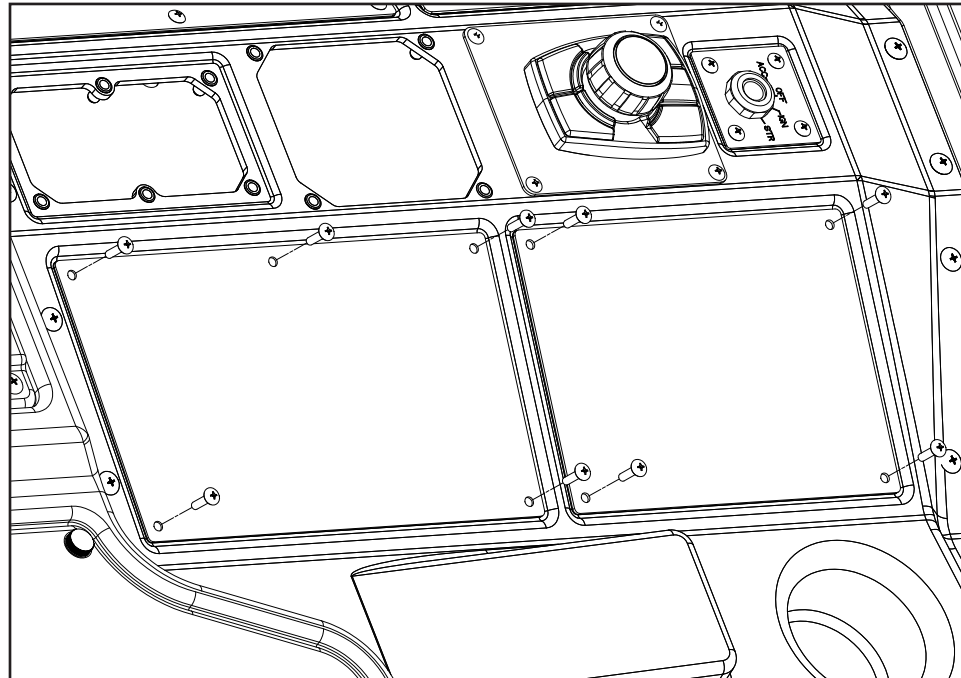

Figure 7
5. Remove the 9 fasteners from the right panels and set panels and fasteners aside for reinstallation (see *Figure 7*).